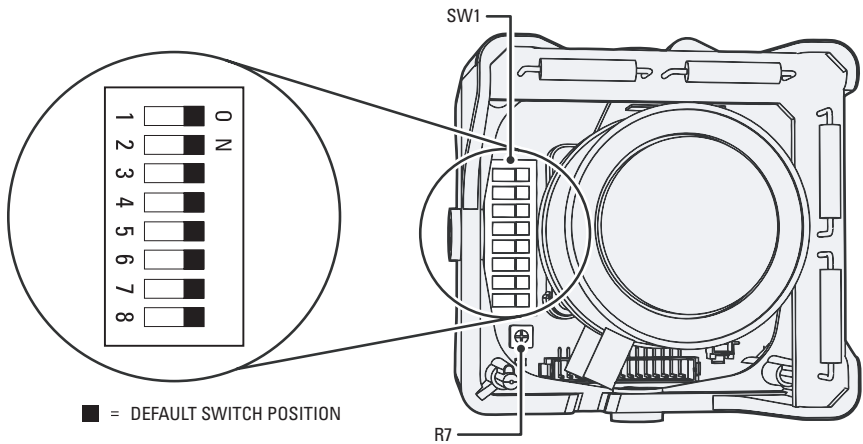

Figure 12. Adjusting the IS150-DW/CW Series Camclosure
Refer to Figure 12 to adjust the IS150-DW or IS150-CW model.
2. Select the camera to synchronize. Use the phase adjustment control (R7) to synchronize the camera to the reference camera (refer to Figure 12 on page 21). Turn R7 clockwise to increase vertical phase; turn R7 counterclockwise to decrease vertical phase.